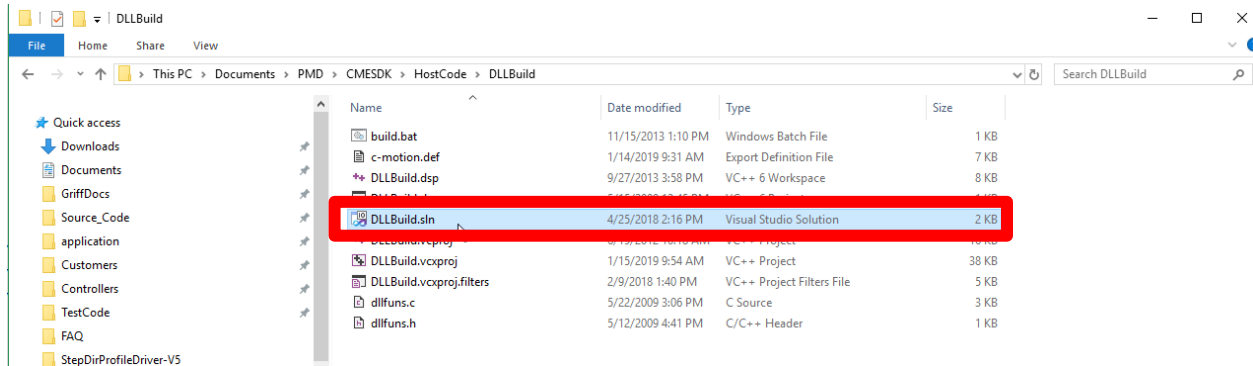

Figure 70 – DLL File Structure
- 4) Open the Visual Studio project file DLLBuild.sln (See Figure 70 – DLL File Structure)